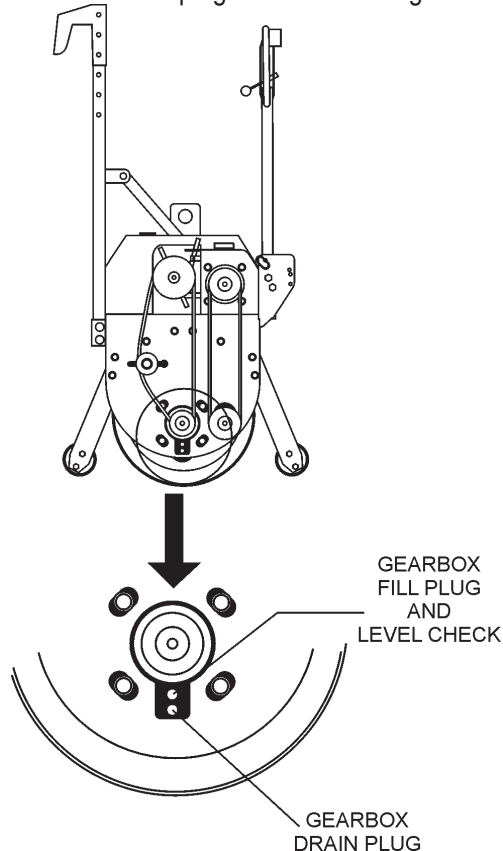

Figure 15. Gearbox Fill and Drain Plug
1. Remove the oil fill drain plug on the gearbox (Figure 15). If the oil level is **correct** oil will begin to leak out. Retighten drain plug.